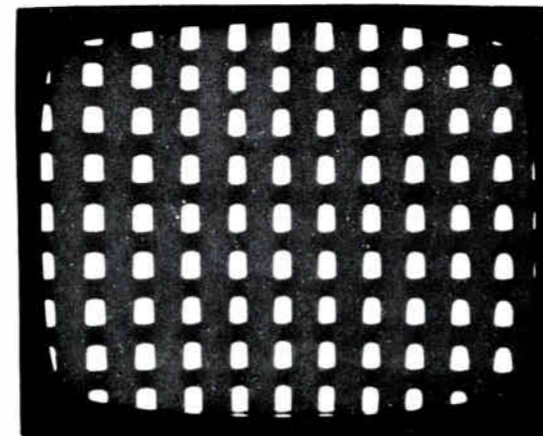

FIGURE 1-26B
- ( ) Reduce the setting of the TOP-BOTTOM PINCUSHION control until the first top horizontal row of dots is straight when your eyes are level with this row of dots. See Figure 1-26B.